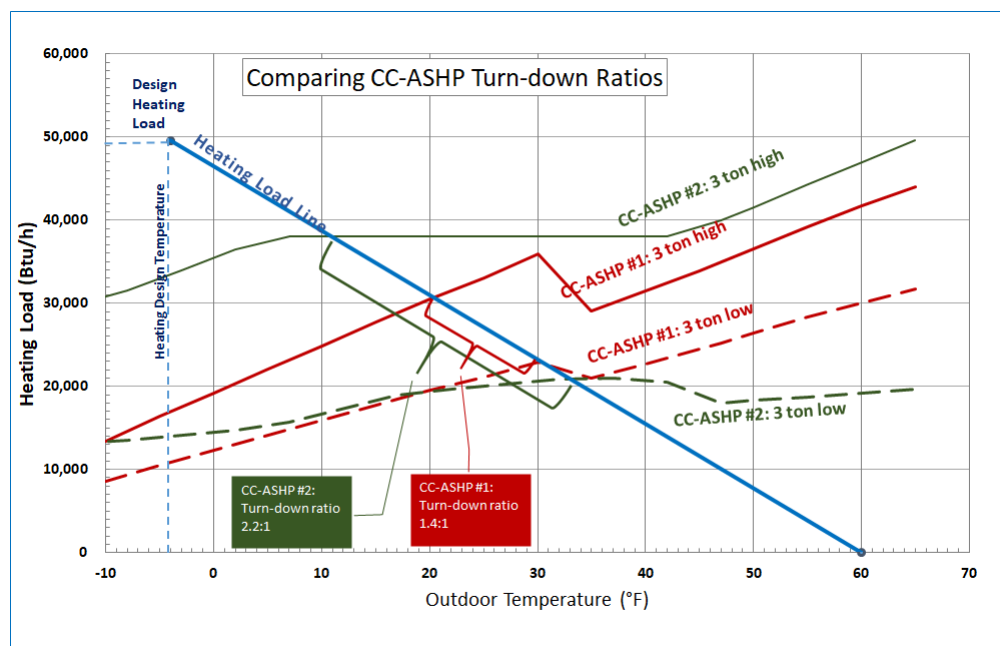

Figure 20: Comparing CC-ASHP Turn-down Ratios
When selecting two-stage, multi-stage and/or variable capacity equipment, selecting a system with the highest turn-down ratio will be important to ensuring client satisfaction. This is particularly important in relation to **Sizing Options 4B, 4C and 4D**. For example, Figure 20 depicts two variable capacity CC-ASHPs with maximum (high stage) and minimum (low stage) capacity curves. These curves intersect the heating load line of the home at two points (the high stage capacity curve intersects at a point higher on the heating load line and the low stage capacity curve intersects at a point lower on the heating load line). The duration of the heating load line that is between these two intersecting points indicates the amount of the heating load that the ASHP will operate at without cycling. As cycling degrades performance and results in comfort swings within the home, the designer's objective should be to minimize cycling by selecting equipment with a high turn-down ratio. In Figure 20, CC-ASHP #2 has a turn-down ratio of 2.2:1 and will operate without cycling between outdoor temperatures of 12°F (-11°C) and 34°F (1°C), while CC-ASHP #1 has a turn-down ratio of 1.4:1 and will operate without cycling between outdoor temperatures of 20°F (-7°C) and 30°F (-1°C). CC-ASHP#2 will cycle much less often for this heating load.
- Data from the on-line equipment databases and/or extended performance data from the manufacturer is used to guide the development of the ASHP performance curve as illustrated in Figure 20;